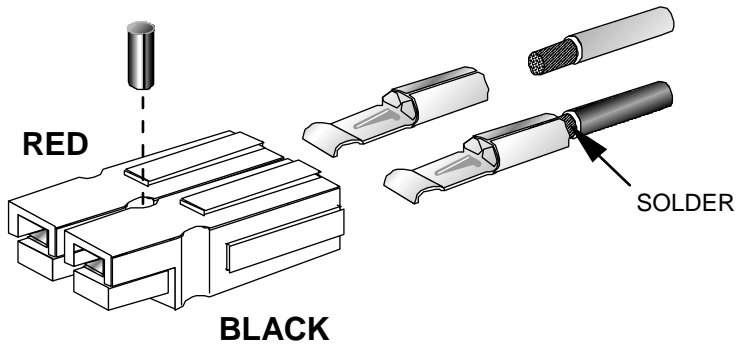

Figure 43. Power Cable Connector Assembly.
□ Locate the two Anderson power connector shells. Orient them as shown in Figure 43 and slide them together so the tongue on one side fully engages the groove on the other half.
□ Insert the terminals into the housings exactly as shown in Figure 43. The terminals should snap securely in place. Pull on the wires individually and make sure they cannot be pulled out (if so, the terminals are probably inserted upside down).